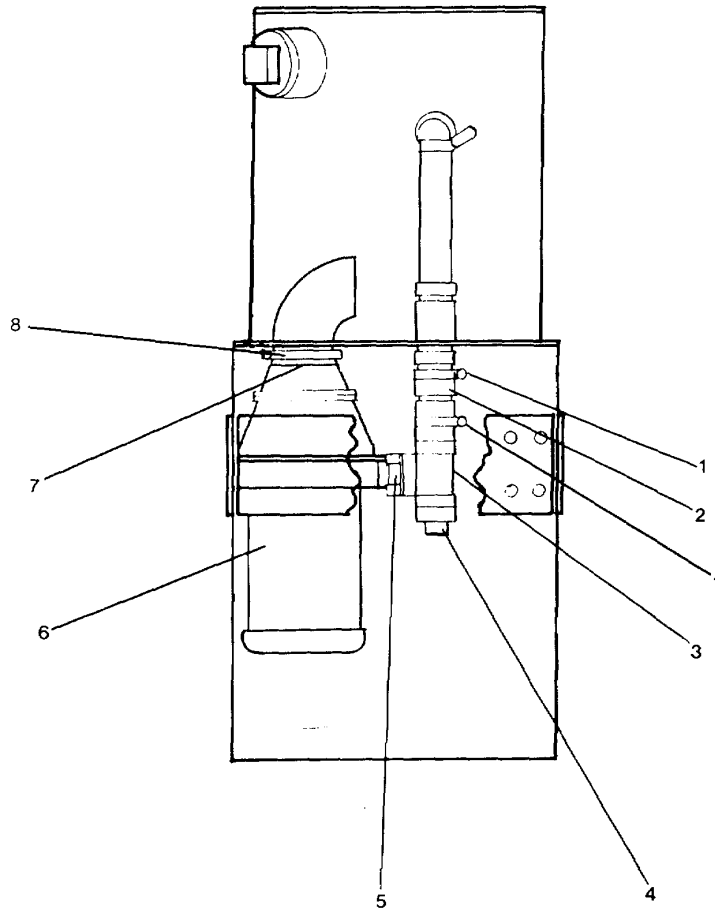
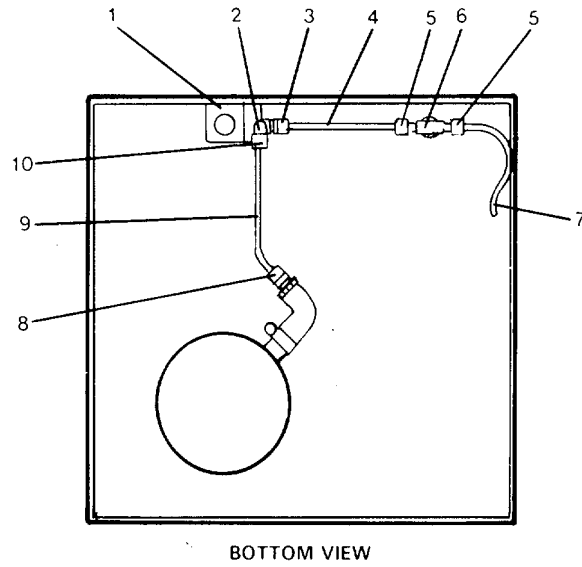
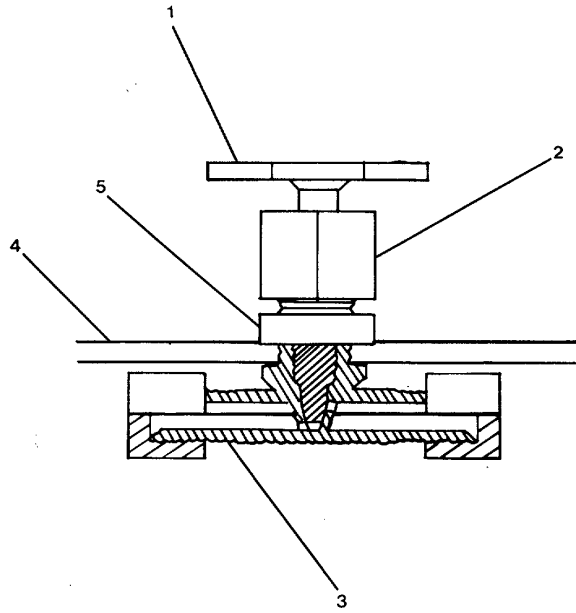

Figure 2-22. Waste Disposer.
Figure 2-24. Chlorine (Bleach) Piping Group.
Figure 2-25. Bleach Metering Needle Valve.
- b. Hold a container under the connection to catch sewage (effluent) runoff. Remove pipe plug (4, FIGURE 2-22) and drain the disposer (6).
- d. Loosen the two clamps (1, FIGURE 2-22) on the flexible coupling (2).
- e. Loosen the quick mount clamp (8) and the hush cushion (7). Slide the disposer (6) downward and off of the sanitary unit connections.
- f. Support the unit on a work surface and remove the adapter (5), tee (3), and flexible coupling (2).
- a. Mount the waste disposer onto the sanitary unit as follows (refer to FIGURE 2-22).
- (1) Apply teflon pipe lubricant to the threads and connect the adapter (5, FIGURE 2-22), tee (3) and flexible coupling (2) (that were removed from the old disposer) to the outlet connection on the new waste disposer (6). Position properly and install the adapter.
- (2) Remove the temporary plugs that were placed in the piping connections after removing the old macerator. Clean the connections with dry rags.
- (3) Loosen the quick-mount clamp (8, FIGURE 2-22) and position the waste disposer inlet and flexible coupling (2) in line with the piping and slide the disposer upward and onto the piping.
- e. Remove the chlorination (bleach) solenoid valve (2, FIGURE 2-24) and the bleach metering needle valve (6):
- (1) Disconnect the electrical cable from the solenoid valve (paragraph 2-18).
- (2) Place a tubing clamp on the incoming bleach tubing (7) to stop the flow of bleach from the storage tank.
- (3) Hold a small container under the connections to catch bleach runoff and disconnect the fittings (5) on each side of the metering valve (6). Remove the end of the tubing (7) from the valve.
- (4) Disconnect fittings (3, 10), on each side of the solenoid valve (2), and fitting (8). Remove the tubing sections (4, 9).
- (5) Remove the solenoid valve (2) from its mounting bracket (1).
- (6) Remove the bleach metering needle valve (6, FIGURE 2-24) as follows:
- (a) Open the needle valve handle (1, FIGURE 2-25) fully counterclockwise.
- (b) Turn the hex connection (2) counterclockwise and remove the handle and needle portion from the valve body (3).
- (c) Turn the locknut (5) counterclockwise and remove it from the valve body. The valve is now free of its mounting.
- (d) Withdraw the valve body (3) from its mounting surface (4) on the underside of the unit.
- f. Remove the waste disposer piping group as follows: (Refer to FIGURE 2-22).
- (1) Hold a container under the connection to catch effluent runoff and remove the pipe plug (4, FIGURE 2-22) to drain the disposer pump and piping.
- (2) Loosen the clamps (1) on the flexible coupling (2).
- (3) Disconnect the piping from the waste disposer outlet at adapter (5).
- (4) Slide the piping section down and remove it from the sanitary unit.
- (1) Replace the bleach solenoid valve:
- (a) Install the solenoid valve (2, FIGURE 2-24) on its mounting bracket (7).
- (b) Install tubing sections (5) and (4) into the solenoid valve (2) and hand tighten fittings (3, 8, and 10).
- (c) If the metering valve was not removed, connect the tubing (4) to the metering valve (6) at connection (5). Connect the tubing (7) to connection (5) on the other side of the valve (6). Remove the tubing clamp from bleach tubing (7).
- (d) If the metering valve (6) was removed, install the valve (step 2) as follows:
- (2) Install the bleach metering needle valve (6, FIGURE 2-24) as follows: